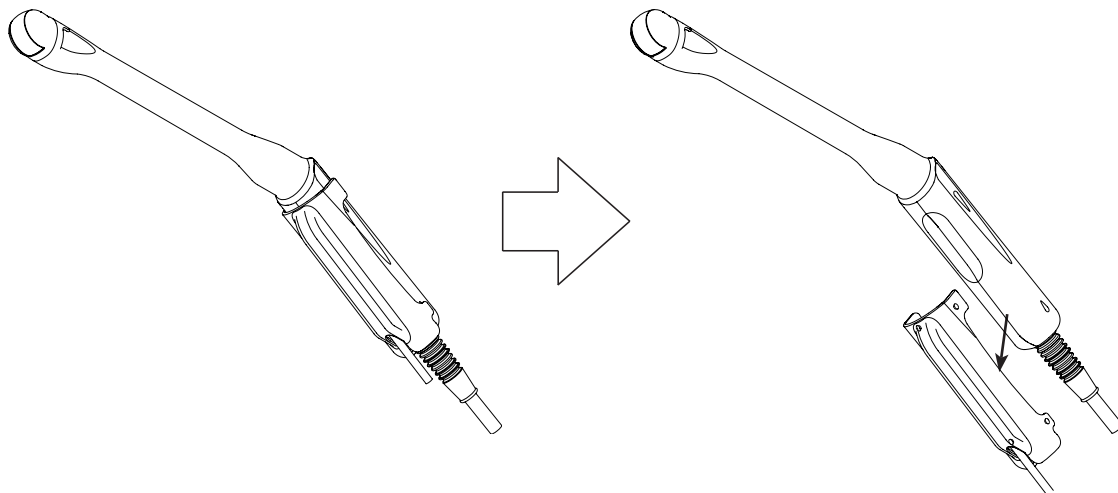

Figure 6 How to release Magnetic Position Sensor Attachment
- (1) Release the magnetic position sensor attachment from the probe as shown in Figure 6.